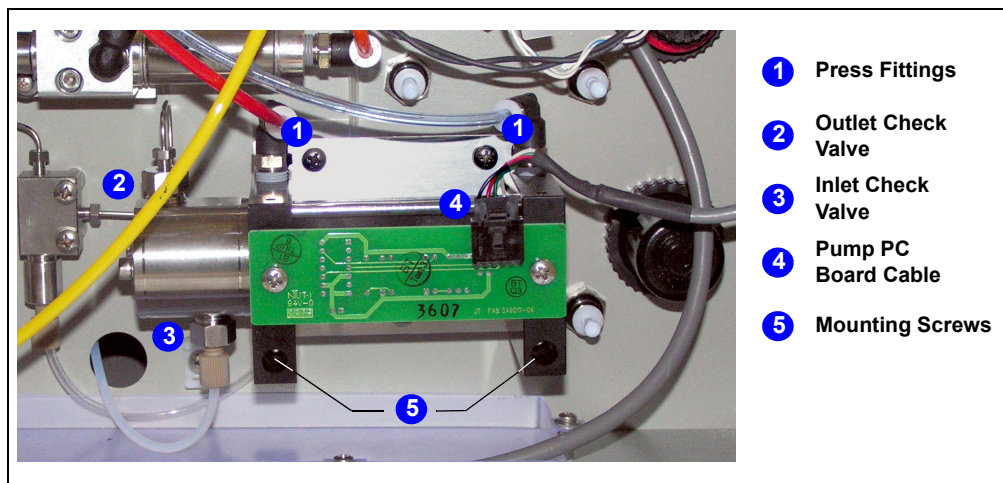

Figure 5-7. Dionex ASE 150 Pump (Behind Right-Side Panel)
1. Follow the instructions in Section 5.4 to disconnect the gas source and remove the right-side panel. The Dionex ASE 150 pump is behind the right-side panel in the lower right corner (see Figure 5-7).